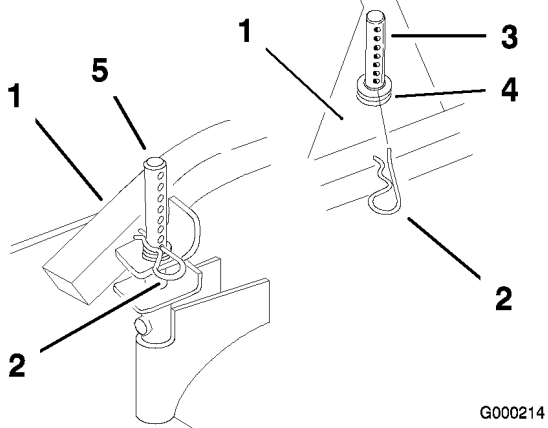

Figure 24
1. Select hole in height-of-cut post and number of spacers corresponding to the height-of-cut desired (Figure 24).
2. Using the lift handle, raise side of deck and remove hairpin cotter (Figure 24).
3. Add or remove spacers if needed and then align holes and insert hairpin cotter (Figure 24).